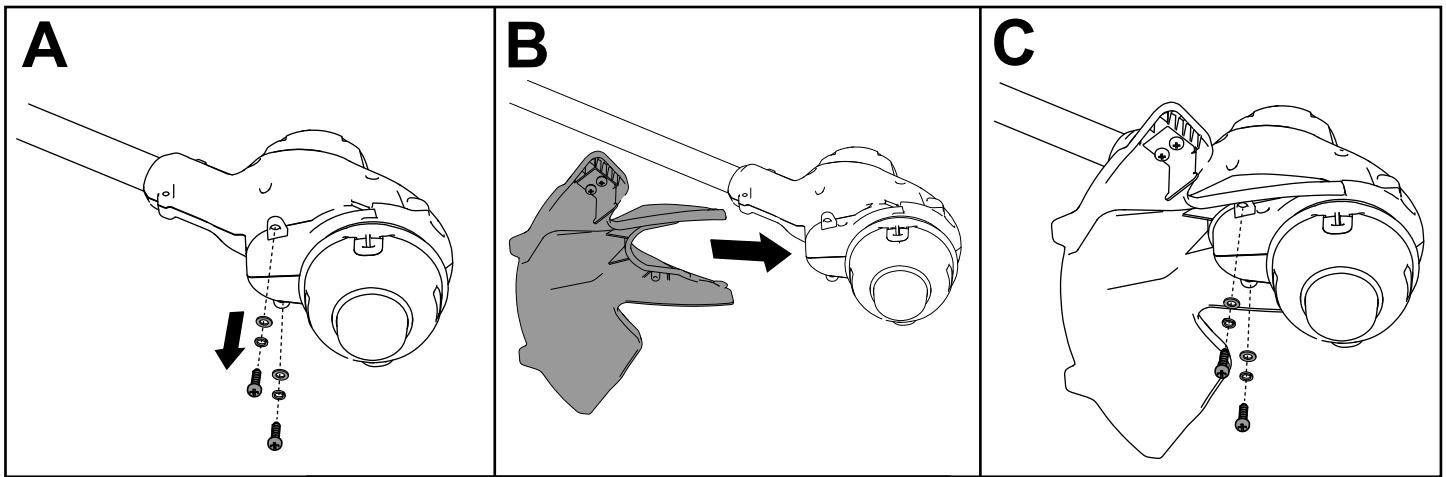

Figure 5
1. Remove the 2 socket head screws, 2 washers, and 2 spacers from the trimmer base (A of Figure 5).
2. Align the guard onto the trimmer base (B of Figure 5).
3. Secure the guard onto the base of the trimmer with the 2 socket head screws, 2 washers, and 2 spacers previously removed (C of Figure 5).